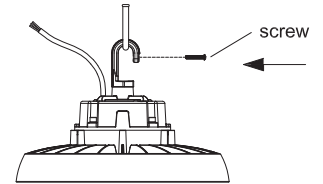

Figure 4
- Tighten hook's screw to secure the installation. (Figure 4).